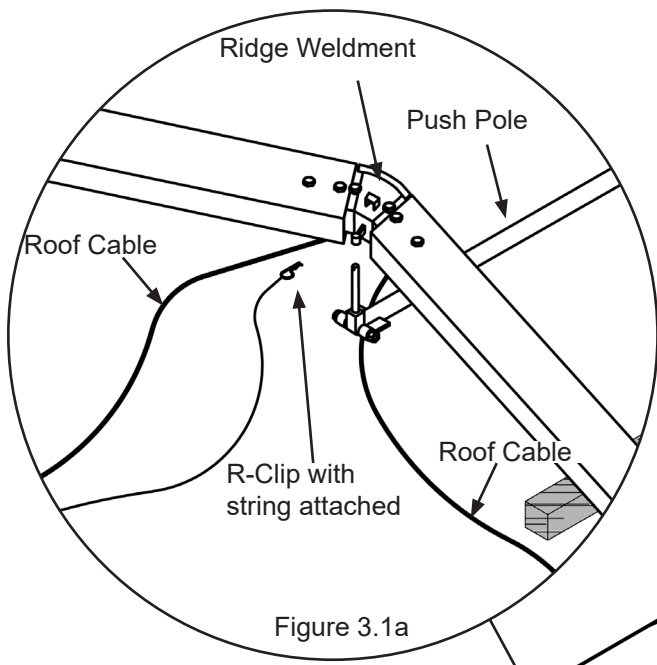

Figure 3.1a
3.1.1 Prior to raising the first arch connect the Diagonal Beam Braces to the uprights by inserting the top pin on the Diagonal Beam Brace up through the second holes at top of the uprights as shown in **Figure 3.1a**. Secure to the upright by using an R-Clip with string attached (R-Clip must have open-end toward top of rafter).